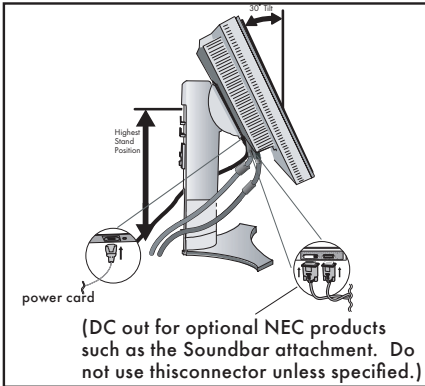

Figure 4
3. Place hands on each side of the monitor. Tilt the LCD panel backwards to a 30-degree angle and lift up to the highest position. Connect all cables to appropriate connectors (Figure 4).